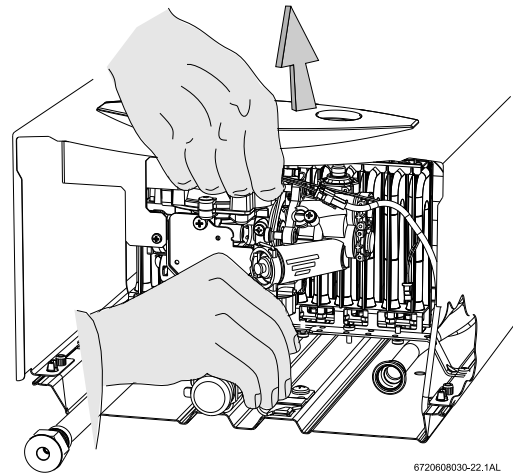

Fig. 6 Remove front cover
- ▶ Remove the outer case by pulling it forwards and then lifting upwards, see Fig. 6.